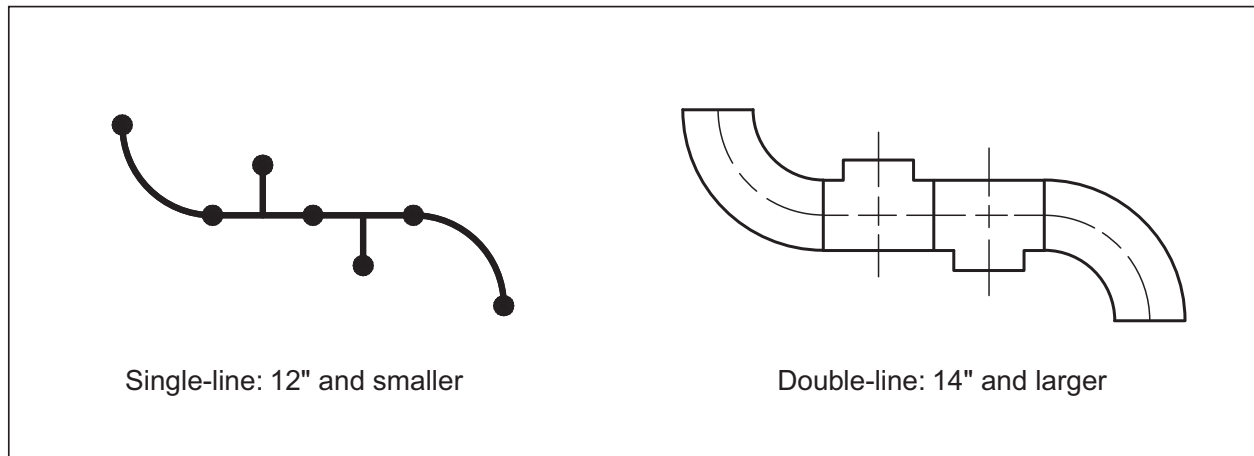

FIGURE 3.50 Fitting make-up.
*make-up*. Single-line and double-line representations of fitting make-up are shown in Figure 3.50.